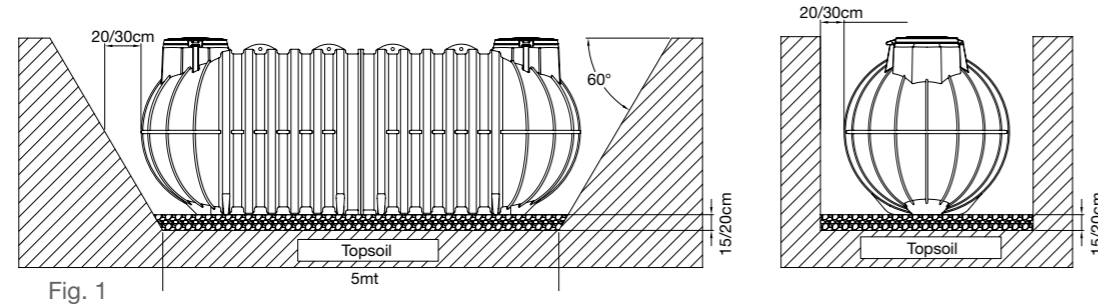

Fig. 1
- b) In the case of a closed truck unloading must take place from the side using a fork lift vehicle. The forks must be long enough to protrude at least 30 cm beyond the product. Take great care not to hit the product with the tip of the forks, to avoid damaging it (Fig.1).